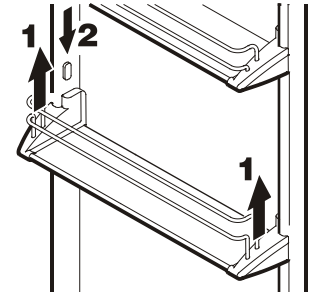

Figure 8
### Repositioning the door racks - Figure 8
- Remove the door racks as shown in **Figure 8, 9**.